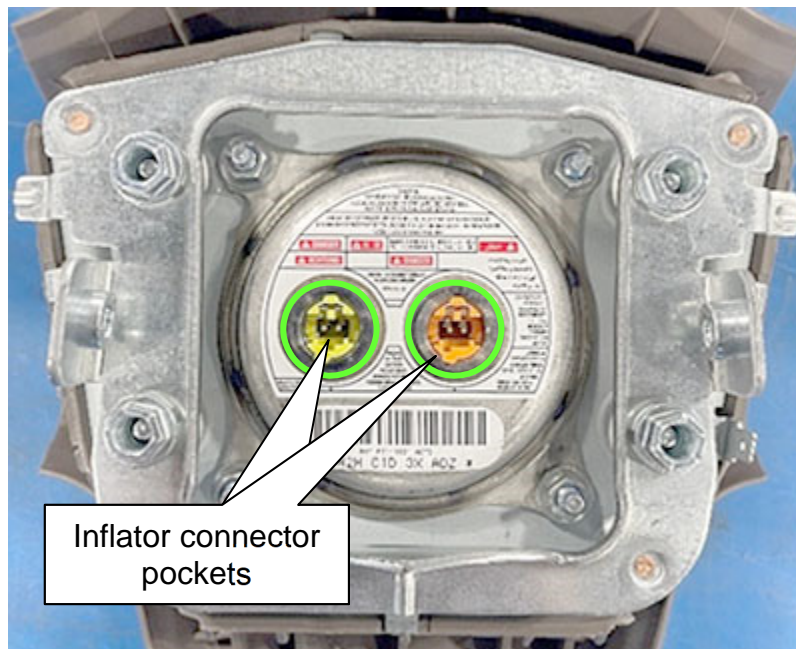

Figure 34
34. Visually inspect inflator connector pockets for debris, bent pins or shorting clip damage (Figure 34).